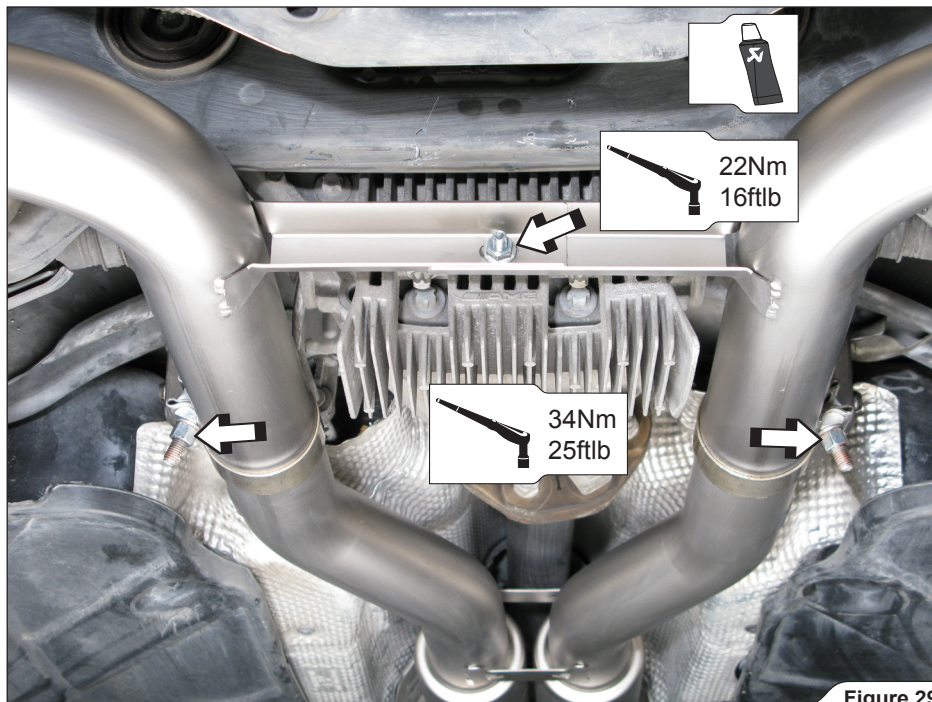

Figure 29
12. **For Evolution only:** set and center the mufflers and tighten the muffler connection (using bolt and nut from installation kit). Push the middle and muffler pipes together, adjust the clamps and tighten them to a specified torques (**Figure 29**).